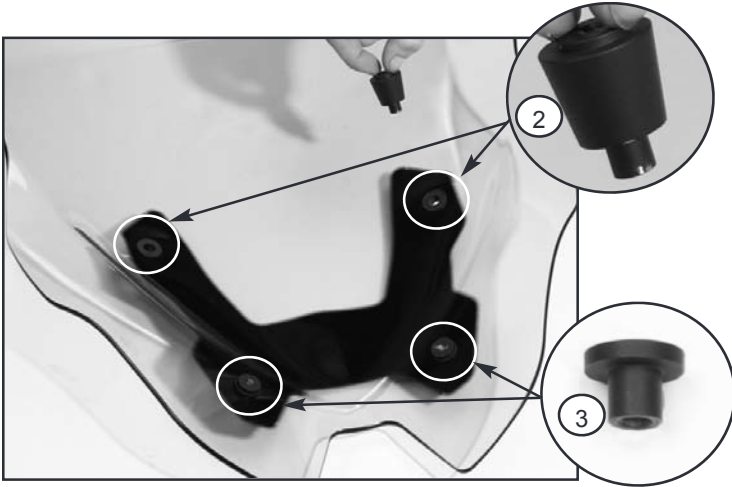

Figure 3
2. On windshield, insert a Large Bushing (2) into each upper hole of grommet. Figure 3
3. On windshield, insert a Small Bushing (3) into each lower hole of grommet. Figure 3